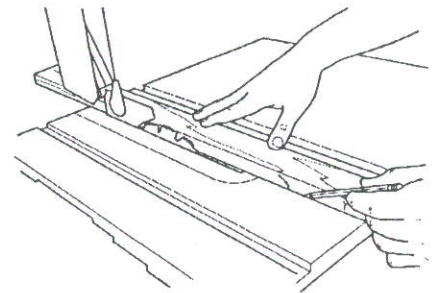

Fig.17
3. With a straightedge, pencil a line from the saw blade's inside teeth onto the front of the table. See Fig.17. This line will make the cut line on the workpiece easier to line up with the saw blade.